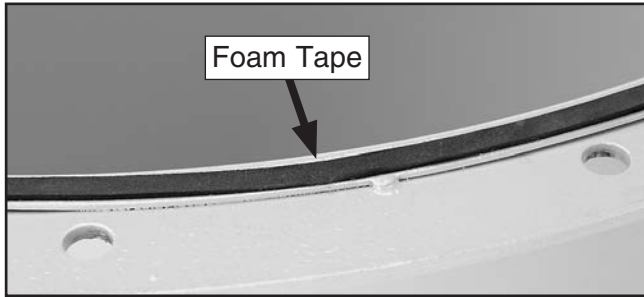

Figure 12. Foam tape applied to intake cylinder rim.
- Place intake cylinder on floor and apply 3 x 6 x 1800mm foam tape to intake cylinder top rim, between mounting holes and inside edge (see **Figure 12**).